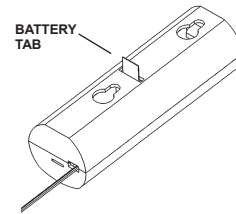
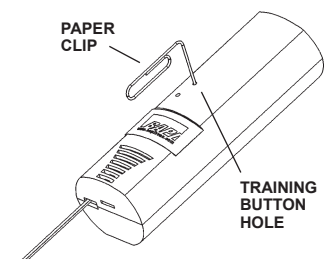

Fig. 4: Transmitter Activation & Battery Tab Removal
Fig. 14: Accessing the Training Button through the Front Cover
1. Remove the battery tab by pulling the tab straight out to start the transmitter (Fig. 4). The battery will last about 4 years before replacement is required.
1. Remove the battery tab to start the transmitter (Fig. 4). The battery will last about 4 years before replacement is required.
New transmitter installations are powered by a pre-installed battery. To activate the unit, find the battery tab insulator in the back of the unit, pull it out and discard the tab (Fig. 4) and push the training button (Fig. 14). The transmitter will start to transmit approximately every 30 seconds.
2. Remove the old battery and install a new battery (BA/BAT-5AA-HIT) so that the negative faces up toward the antenna (Fig. 12). Push the training button (Fig. 14) and the transmitter will start to transmit approximately every 30 seconds. The transmission LED (Fig. 13) will flash once for each transmission.
When using a receiver with one or more Analog Output Modules, the transmitter will have to be trained to an individual Analog Output Module on the receiver. To do this, push and hold the Service Button on the Analog Output Module you wish to train. Then push and release the Training Button on the transmitter with a paper clip through the top faceplate hole (Fig. 14). The Analog Output Module LED will light up, indicating a successful training process. The LED on the Analog Output Module will then flash with each received transmission, approximately every 30 seconds.
- Verify that the Transmit LED (Fig. 13) on the transmitter flashes at 30 second intervals. If the LED is not flashing, press the Training Button (Fig. 14) and recheck if the transmit LED is flashing.